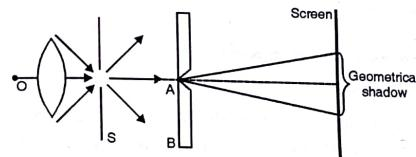

Fig. 3.1.1
- For example, when light waves diverging from a narrow slit S (Fig. 3.1.1) which is illuminated by a monochromatic source O, pass an obstacle AB with a straight edge A parallel to the slit, the geometrical shadow on the screen is never sharp.